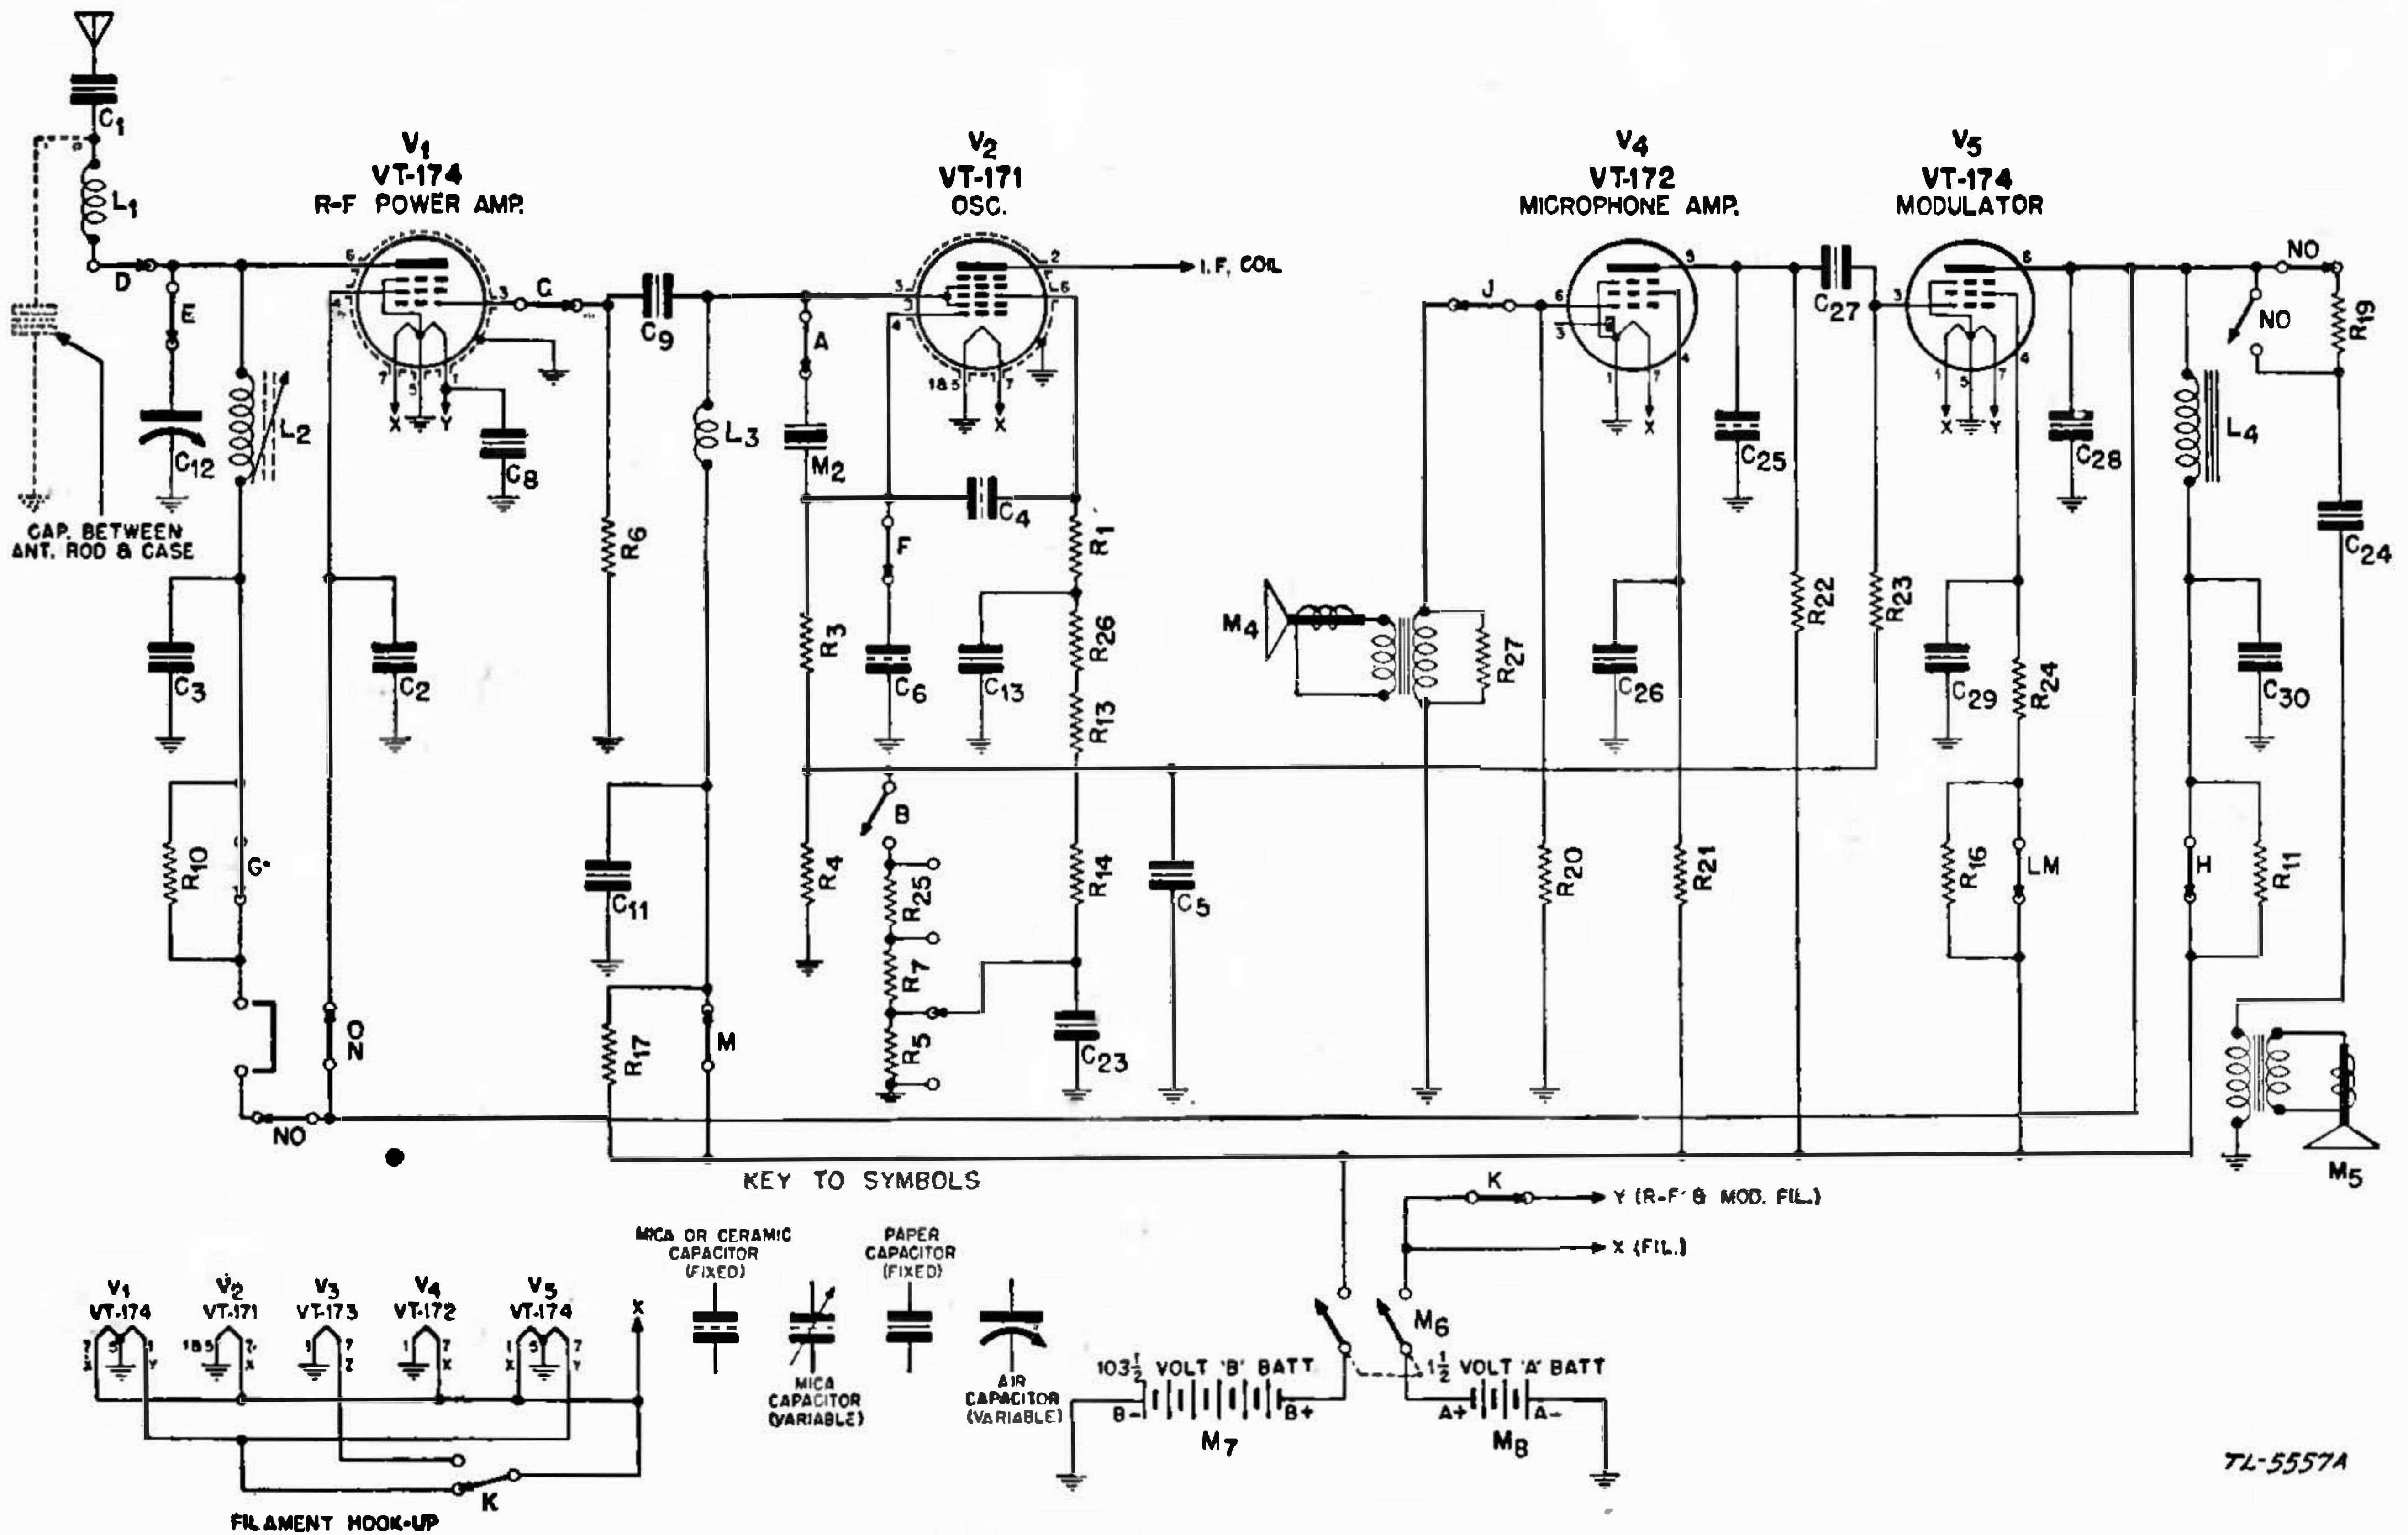

FIGURE 4.—Functional diagram of transmitter.
**31. Transmitter functioning.**—In the transmit position only four tubes are used. The circuit consists of a crystal controlled oscillator in a Pierce circuit, which drives a tube VT-174 as an r-f power amplifier. The r-f power amplifier is plate modulated by a modulating amplifier made up of a voltage amplifier stage and a modulator stage. The functional diagram of the transmitter is shown in figure 4.